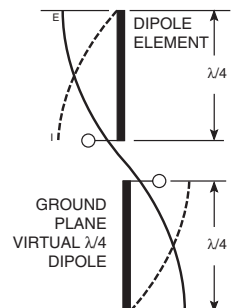

Figure 39: Dipole Antenna
4. In many antenna designs, particularly  $\frac{1}{4}$ -wave whips, the ground plane acts as a counterpoise, forming, in essence, a  $\frac{1}{2}$ -wave dipole (Figure 39). For this reason, adequate ground plane area is essential. The ground plane can be a metal case or ground-fill areas on a circuit board. Ideally, it should have a surface area less than or equal to the overall length of the  $\frac{1}{4}$ -wave radiating element. This is often not practical due to size and configuration constraints. In these instances, a designer must make the best use of the area available to create as much ground